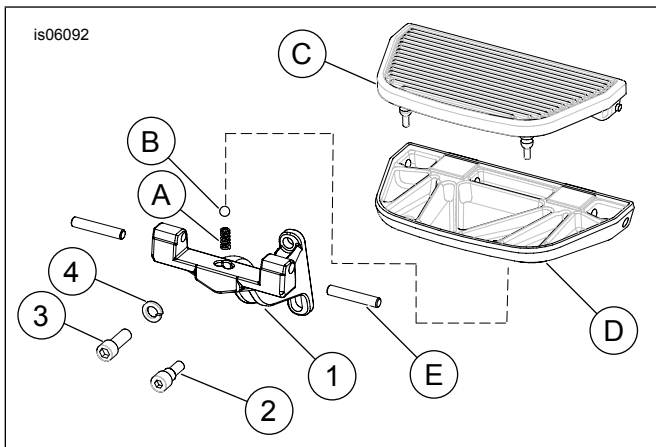

Figure 2. Service Parts: Reduced Reach Footboard Support Kit
See Figure 2 and Table 1.
4. See Figure 2. Insert shoulder bolt (2) through slot in footboard bracket (1) and into hole in rear swingarm bracket at the desired height. Tighten to 5–8 N·m (48–72 in-lbs).
5. Install the upper screw (3) and lockwasher (4) through footboard bracket (1). Tighten screw to 49–56 N·m (36–42 ft-lbs).
6. Install spring (A) into retaining hole in footboard bracket. Set the ball (B) on top of spring.
7. Position the detent in the bottom of the footboard pan (D) over ball in footboard bracket. Be sure not to unseat the ball. Press down on footboard pan so the holes of the footboard pan and footboard bracket align.
8. Insert pivot pins (E) through two mounting holes on footboard bracket and into footboard pan.